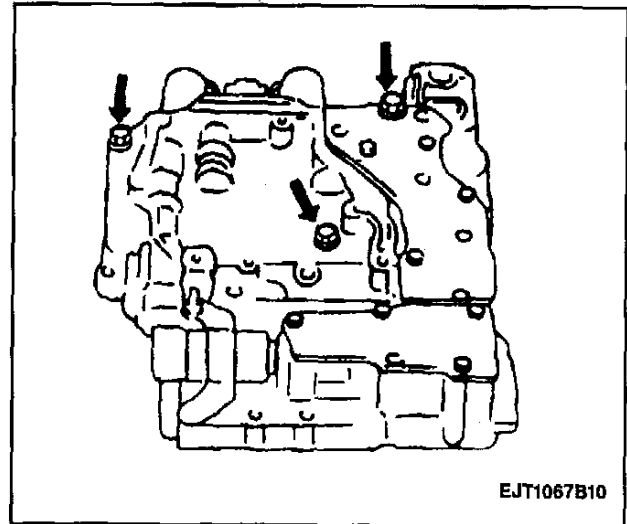

Figure 105—Lower Valve Body Bolt Location (03-72LE, 4-Speed)
4. Three bolts to lower valve body (Figure 105).